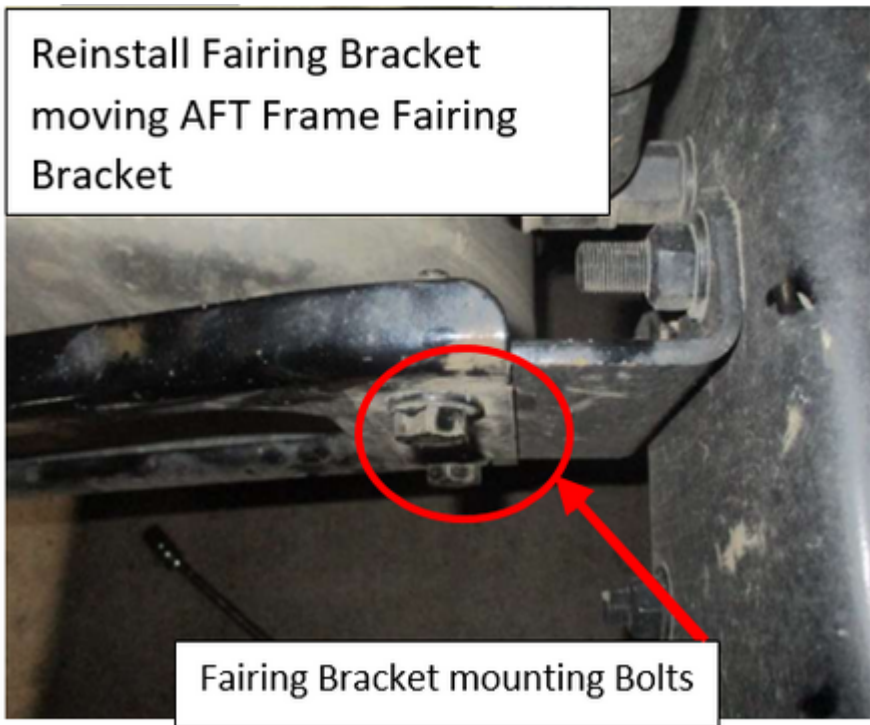

Figure 3: Fairing Bracket moved AFT the Fairing Frame Bracket.
i. Remove Fairing Bracket mounting bolts and install Fairing Bracket as shown in Figure 3.
ii. Reinstall Fairing Bracket as shown in Figure 3 and torque mounting bolts to $235 (+/- 24) \text{N*m}$ ($174 (+/- 18) \text{Lbf*Ft}$).